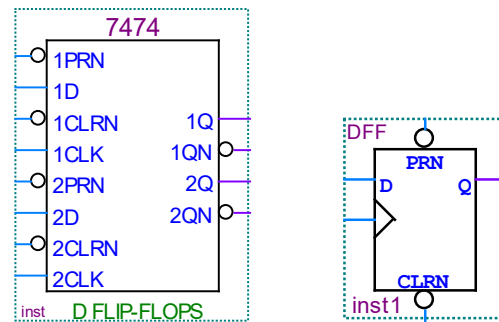

Figure 3: Two D-FF available in Quartus.
- i. Use “others | maxplus2 | 7474” for the left item in Figure 3.
- ii. Use “primitives | storage | dff” for the right item in Figure 3.
- Design the required counter circuit (called `Lab3_3bit_Cnt`) in Quartus. (I suggest that you do it first on paper, but this is not required and will not be submitted.) Don’t forget to include the SET and CLR inputs in your circuit. (In Quartus, choose D-FF’s with asynchronous Set and Clear inputs. Both of the D-FF’s shown in Figure 3 have asynchronous Set and Clear inputs.)